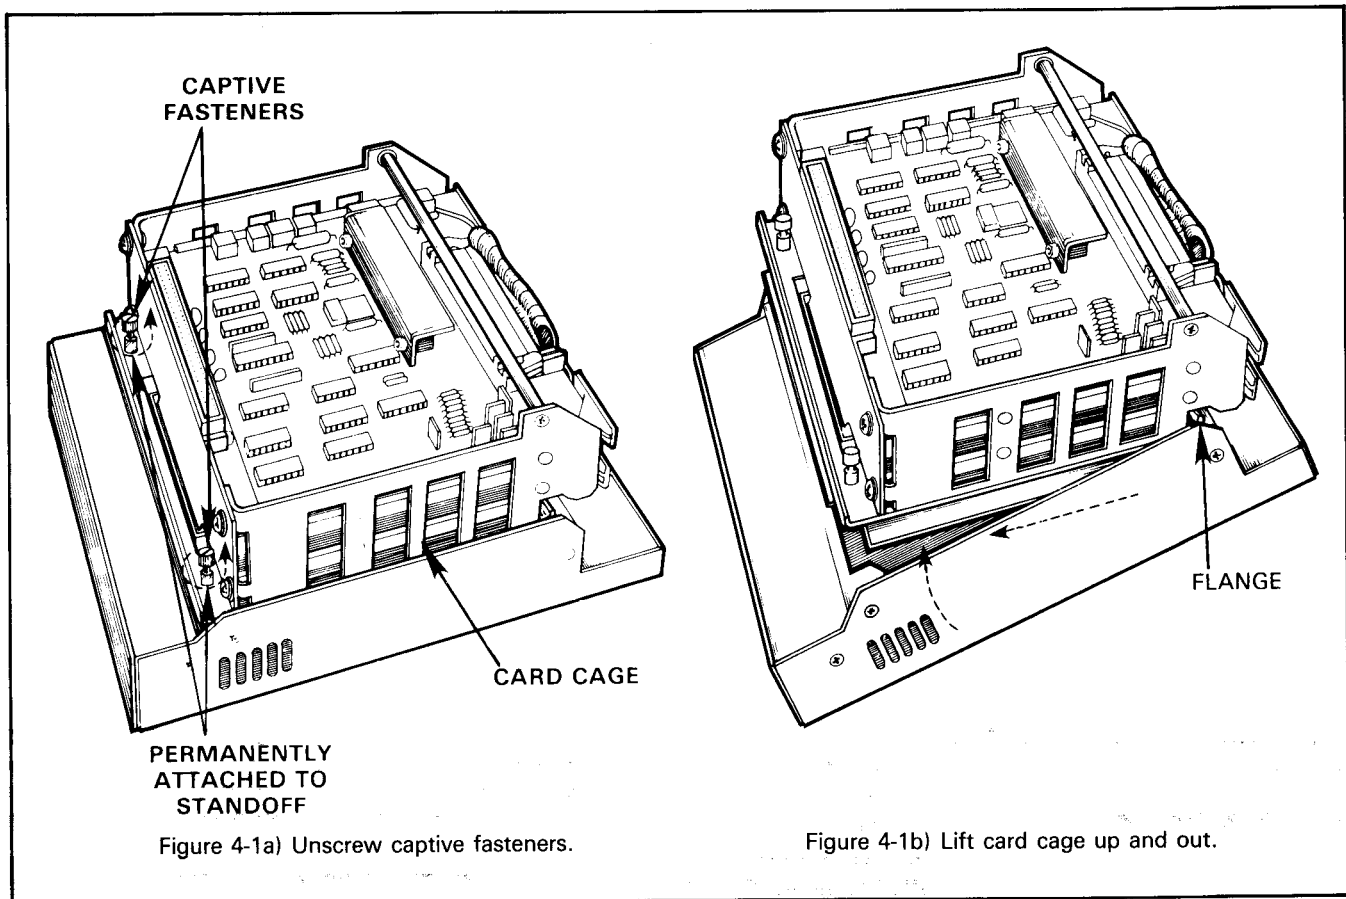

Figure 4-1. UniPak 2™ Disassembly
To disassemble the UniPak 2™, refer to figure 4-1 and follow the procedure outlined below.
10. Replace the card cage by tilting it up to lock the flanges, as shown in figure 4-1, then gently setting it down. Make sure the captive fasteners line up with the fastener holes on the UniPak 2™ frame.